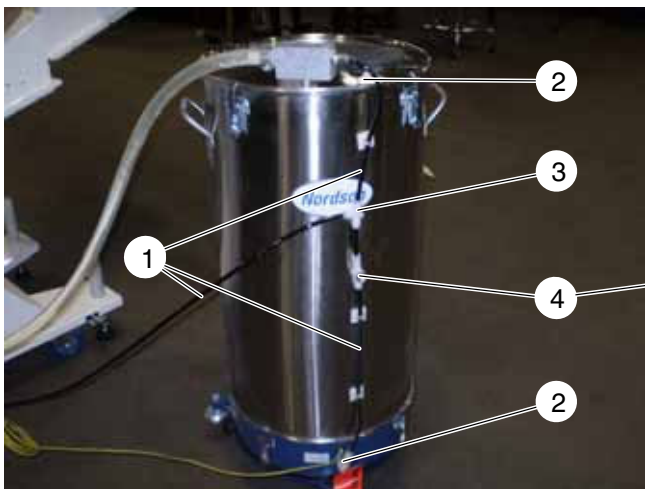

Fig. 3-17
9. Fig. 3-17: Connect the transfer pump and the refill hopper fluidization using the black 8 mm air hose (1), the reducer 10/8 mm (2), the T-piece (3) and the throttle (needle valve, 4).